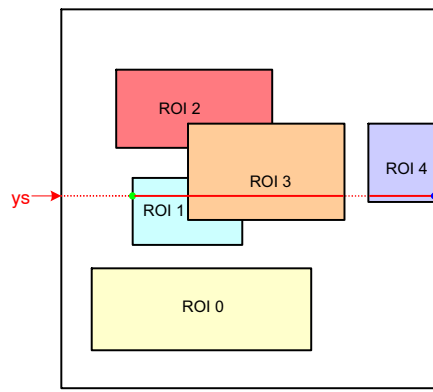

Figure 28. Scanning the Image Array with Five Windows
Figure 28 illustrates a practical example of a configuration with five windows. The current position of the read pointer (ys) is indicated by a red line crossing the image array. For this position of the read pointer, three windows need to be read out. The initial start position for the x-kernel pointer is the x-start configuration of ROI1. Kernels are scanned up to the ROI3 x-end position. From there, the x-pointer jumps to the ROI3 x-end position, which is ROI4 in this illustration. When reaching ROI4's x-end position, the read pointer is incremented to the next line and xs is reinitialized to the starting position of ROI1.
- The read pointer is not necessarily incremented by one, but depending on the configuration, it can jump in y-direction. In Figure 28, this is the case when reaching the end of ROI0 where the read pointer jumps to the y-start position of ROI1.